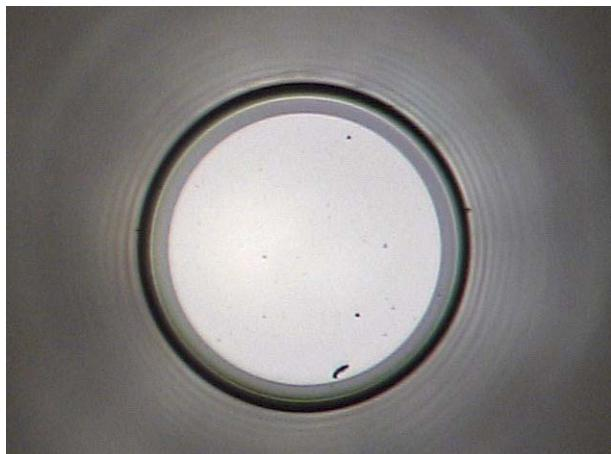

Figure 5.15 Contaminated fibers
- Figure 5.15 shows an example of a contaminated fiber.